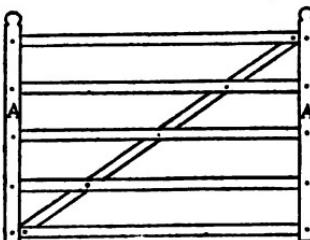

FIG. 59.
**To make a wooden field gate.**—Fig. 59 represents a common gate to keep out cattle; we suppose it to be about  $6\frac{1}{2}$  feet wide, and four feet high, so that a cart may pass through when the gate is open.